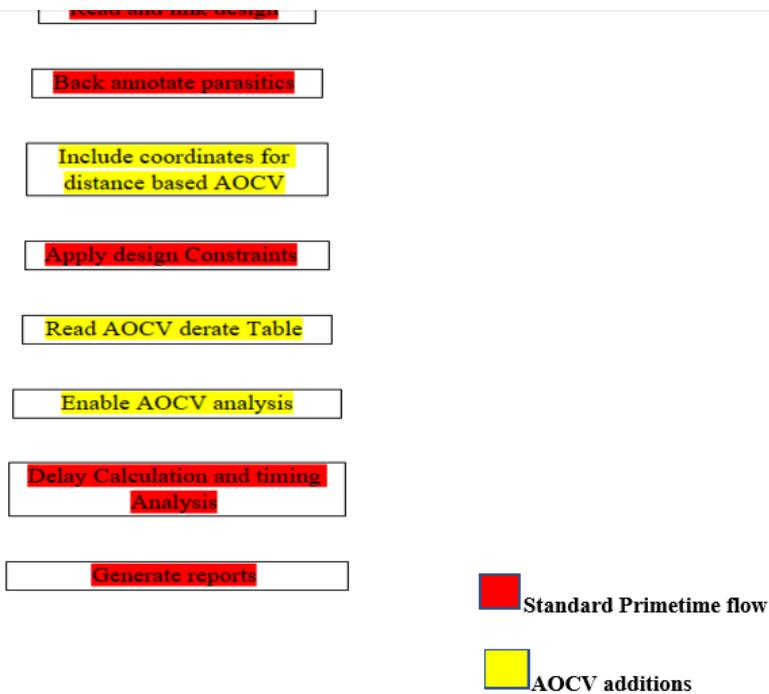

Fig6:PrimeTime AOCV Analysis Flow
- There are some additional steps added in AOCV derate analysis as compared to OCV fixed derate flow. A flow of the primetime tool for AOCV derate analysis is shown in Fig. 6.